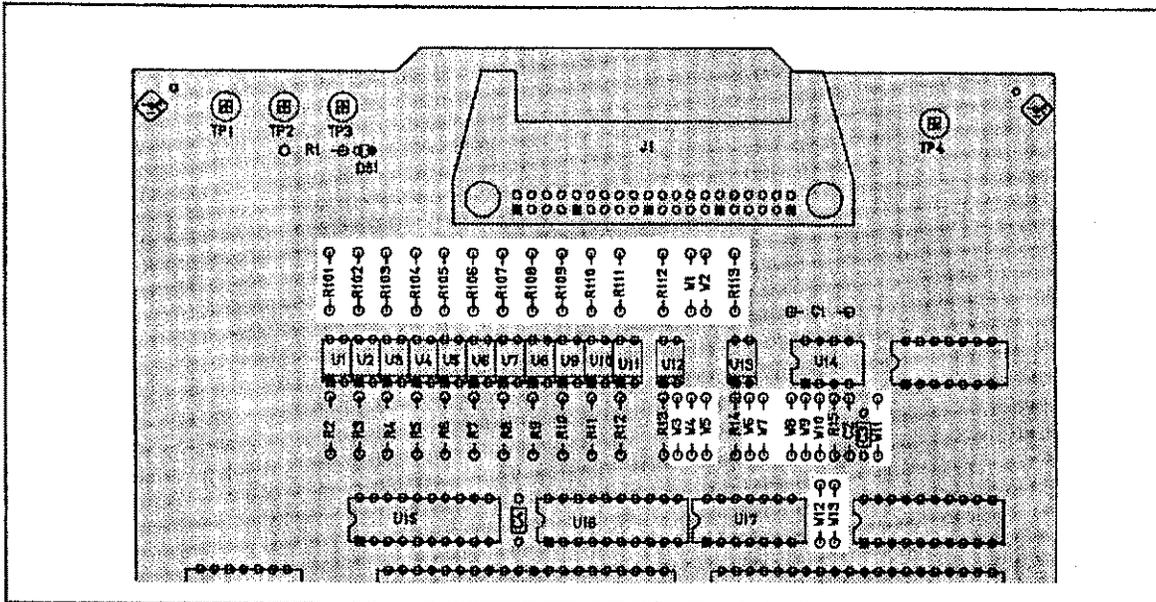

Figure 6-13. Jumper Settings
4. Set the jumpers on the handler interface board the same settings as when the board is shipped from the factory referring to Figure 6-13.